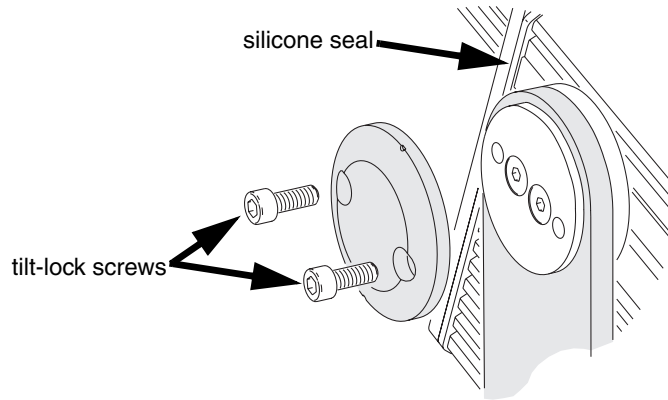

Figure 7: Tilt adjustment
2. See Figure 7. Loosen, but do not remove, the tilt-lock screws.